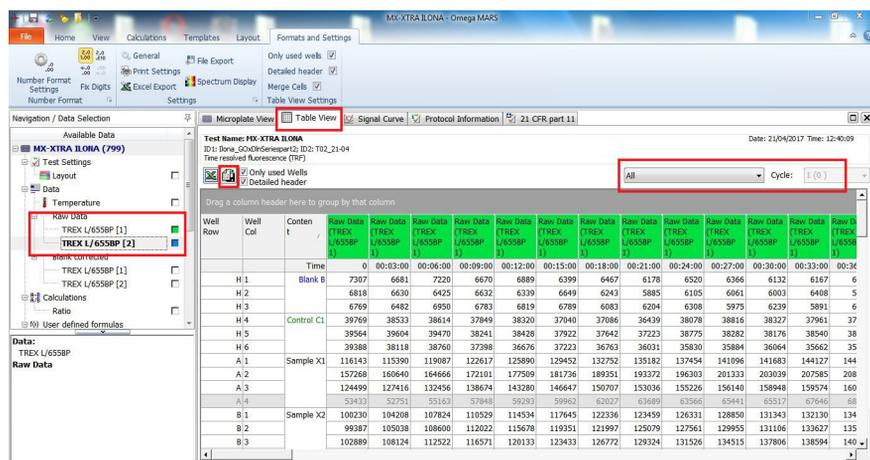

Figure 8. Table View options
- 4 Navigate to the data, as shown in **Figure 8** on page 19. Select the **Table View** tab. Select **All** cycles. Select **Raw Data** for Window 1 and Window 2 (if measured) in the **Navigation / Data Selection** section.